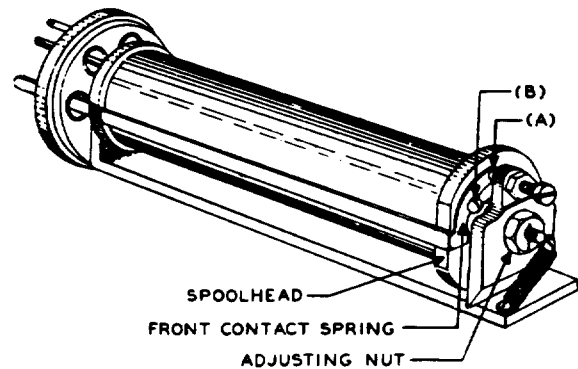

Fig. 1 - 59-, 105- and 108-type Relays
- ← Fig. 1 (A) - The front contact spring shall rest firmly against the spoolhead at least near the contact end.
- Fig. 1 (B) - The front contact spring screw shall be sufficiently tight to hold the front contact spring in the adjusted position.